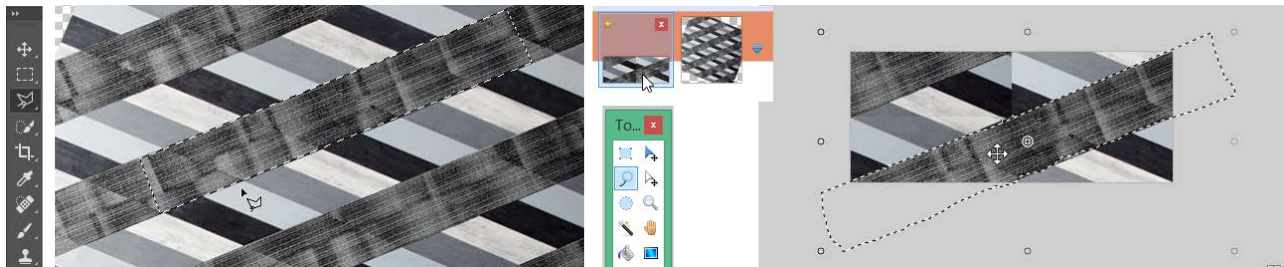

Figure 26—Copy and paste a portion of the old image into the new one
- ⇒ In both programs, drag the pasted layer to position it (see Figure 26).